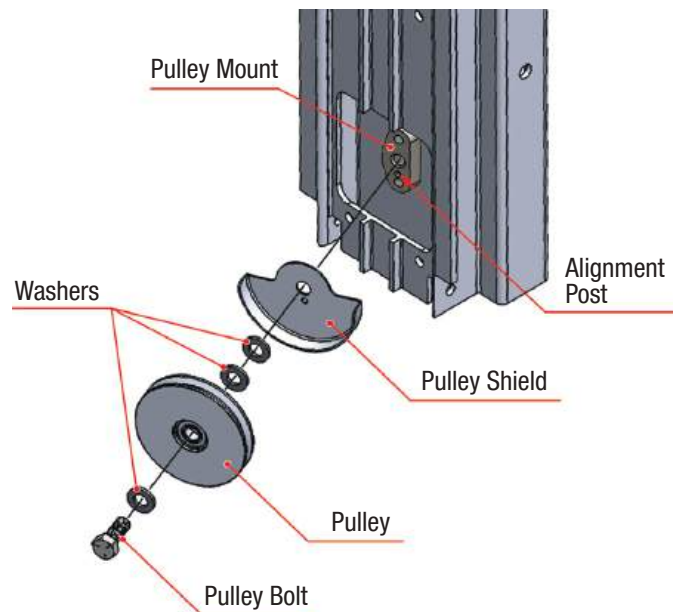

Figure 4-25: Pulley Assembly Parts and Installation Order
3. Lift the pulley up and remove the cable, then remove and discard the pulley, washers, and pulley shield. **IMPORTANT:** Be sure and note the placement of the three washers. Re-install washers in the same order (see Figure 4-25).
4. For the new pulley assembly, apply a dab of blue Loc-Tite to the pulley bolt threads and loosely attach the new pulley assembly in place. **NOTE:** There is a small post on the pulley mount. Align that post with the mounting hole in the pulley shield (see Figure 4-25).